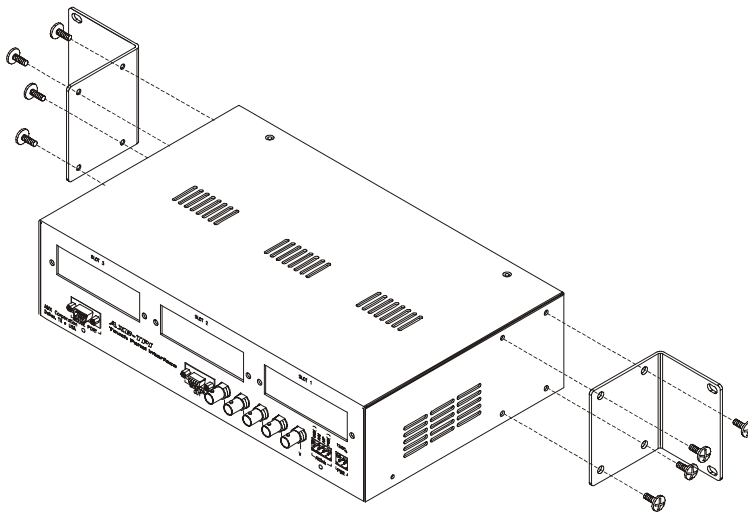

FIG. 6 Installing mounting brackets
2. Install the mounting brackets using the screws supplied with the unit, as shown in FIG. 6.